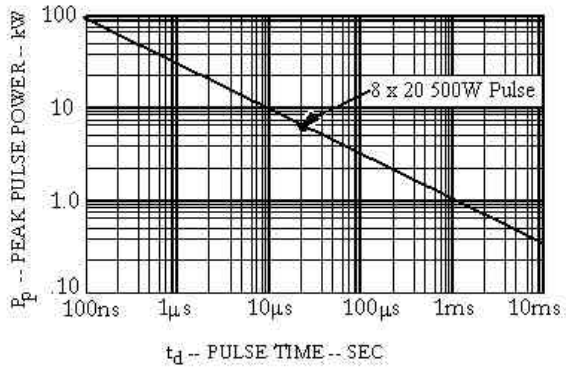

FIGURE 1
- SM03 thru SM36 have a Peak Pulse Power: 500 Watts (8/20 μsec, Figure 1)